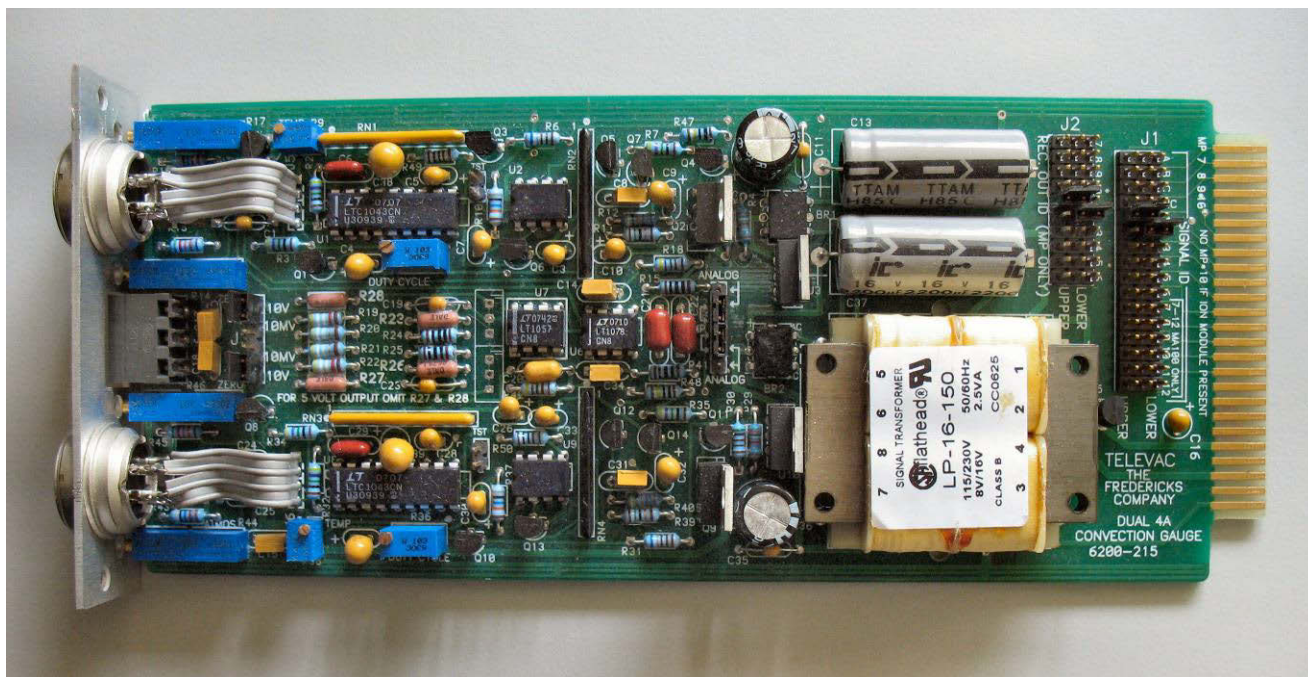

Fig. 9.3c – Dual Convection 4A Gauge Module
CONVECTION MODULE - A convection module is shown in Fig. 9.3c and 9.3d. This module is typical of all modules. The assignment of station identification numbers on a convection module is accomplished by placing jumpers across the appropriate pins in the SIGNAL ID and the REC OUT ID sections. The upper convection station has been named station #1 and the lower convection station has been named station #2. Also two (2) jumpers are placed in the "MP" positions of the ANALOG/MP section of the board.